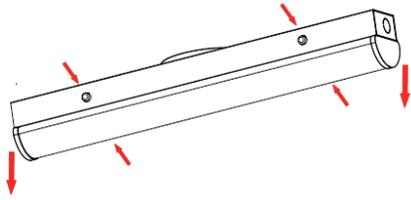

Fig. 37
1. Press buttons on both sides of the fixture to remove housing cover (Fig. 37).